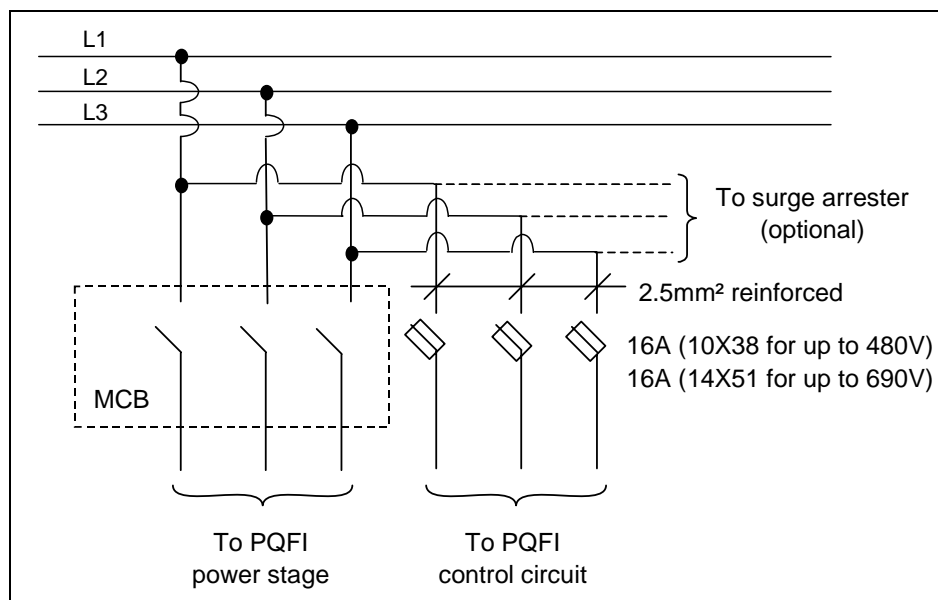
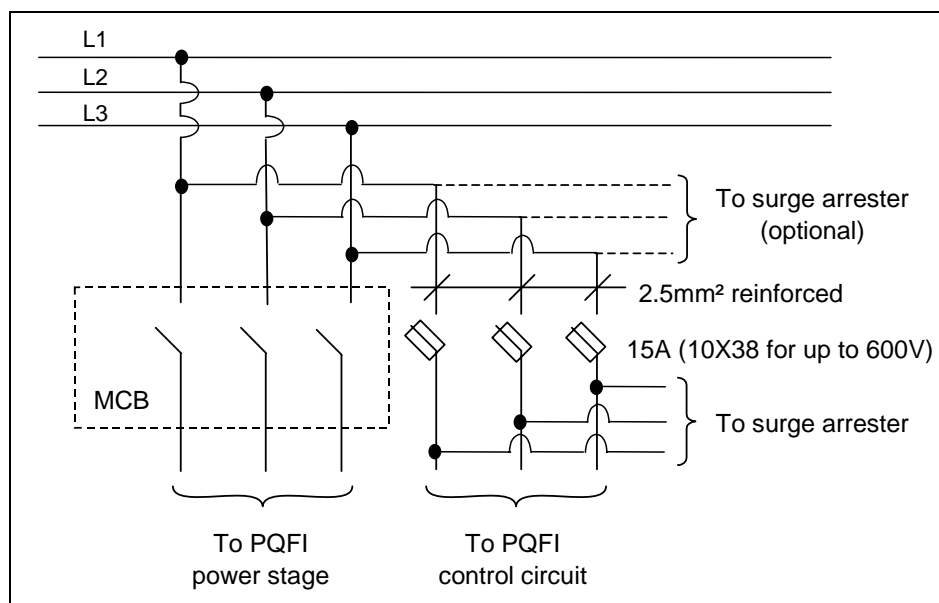

Figure 7.10. Symbolic representation of the PQFI input protection (CE version)
Figure 7.11. Symbolic representation of the PQFI input protection (cULus version)
- The control circuit is also protected by fuses. Figure 7.10 shows a symbolic representation of the PQFI input protection for CE versions of PQFI. Figure 7.11 shows a symbolic representation of the PQFI input protection for cULus versions of PQFI.